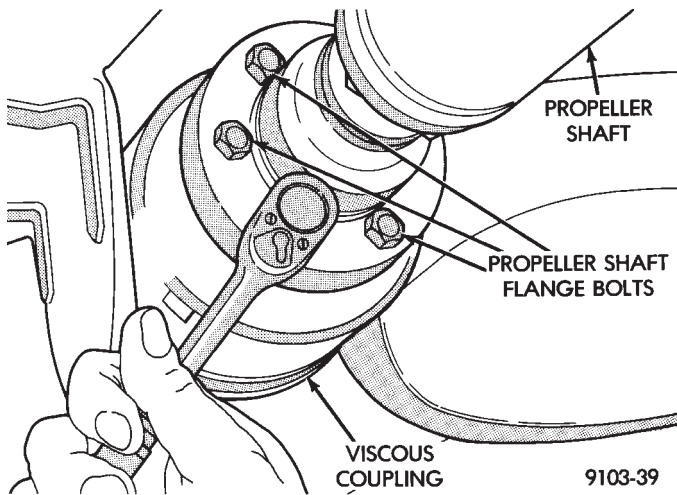

Fig. 1 Propeller Shaft Mounting Bolts (Rear)
(2) Remove propeller shaft rear mounting bolts and support end of propeller shaft (Fig. 1).